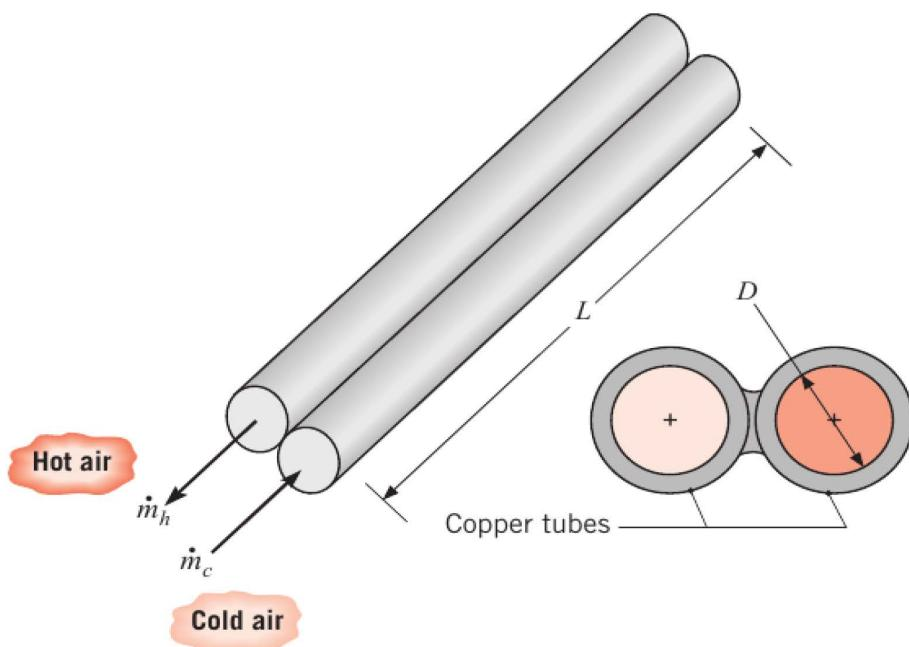

Figure 23: Twin-tube counterflow heat exchanger.
- a) A twin-tube counterflow heat exchanger (Fig. 23) operates with air flow rates of  $0.003 \text{ kg s}^{-1}$  for both hot and cold streams. The cold stream enters the heat exchanger at  $280 \text{ K}$  and must be heated to  $340 \text{ K}$  using hot air that enters the domain at  $360 \text{ K}$ . The average pressure of the airstreams is 1 atm and the maximum allowable pressure drop for the cold airstream is of 10 kPa. The tube walls may be assumed to act as fins, each with an efficiency of 100%.